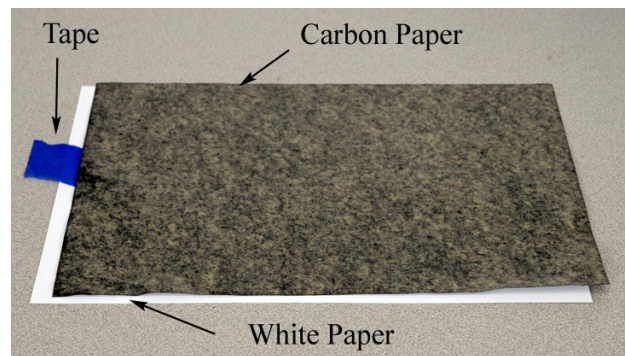

Figure 7: Landing Area
5. Pull the launch cord to launch the ball and note the landing location. Place a blank sheet of paper at this location and tape it in position as shown in Figure 7.
6. Now cover the white paper with a sheet of face-down carbon paper as shown in Figure 7. You do NOT need to tape the carbon paper.